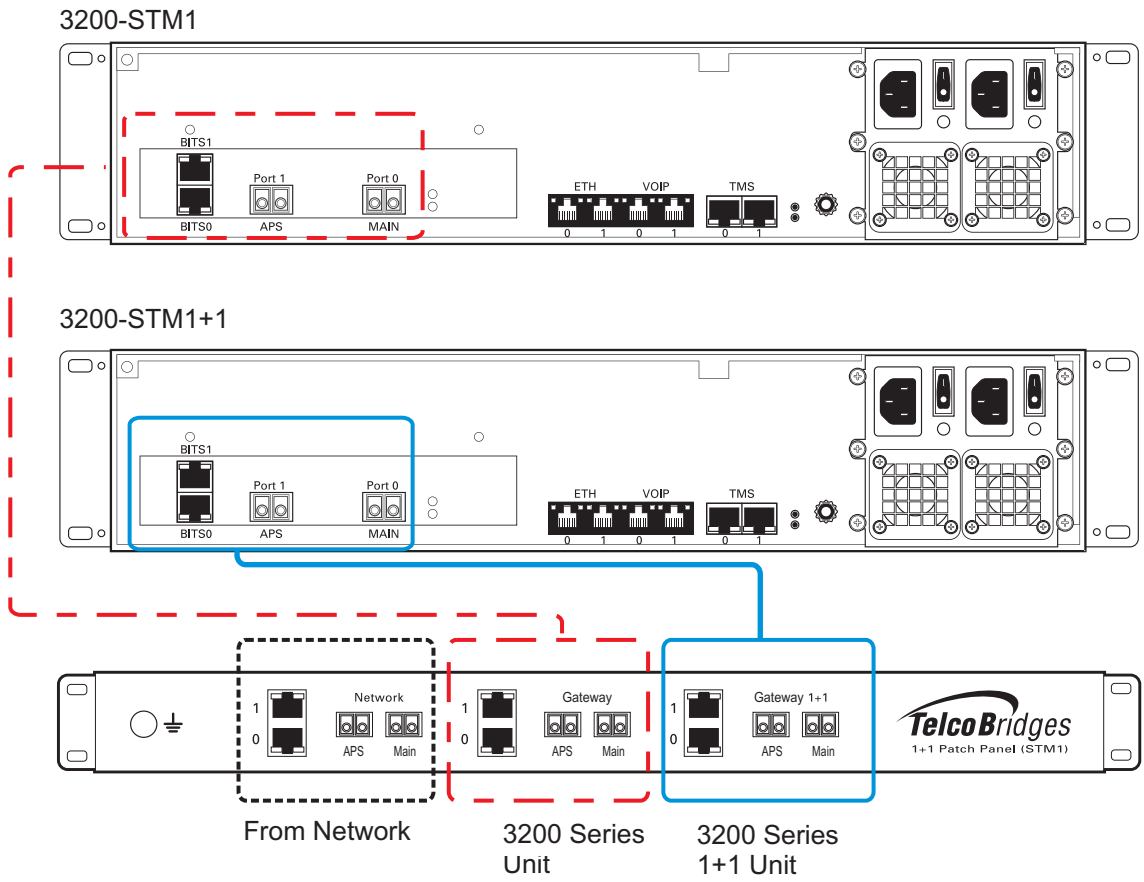

Figure 2.17 3200-STM1 and 3200-STM1 +1 connecting to the STM1 1+1 patch panel
A 3200-STM1 and 3200-STM+1, each with one main and one backup OC3 or STM1 port enables the connection to OC3/STM1 lines. See figure 2.17 on page 41. Refer to table 2.4 on page 40 for a listing of optical interfaces. The default SFP module for OC3/STM1 connection is SMF, intermediate reach, (SFP-OC3-IR1) 1310 nm with LC type connectors.
1. Connect each OC3/STM1 line of the network section of the 1+1 patch panel to the remote equipment. See figure 2.17 on page 41.